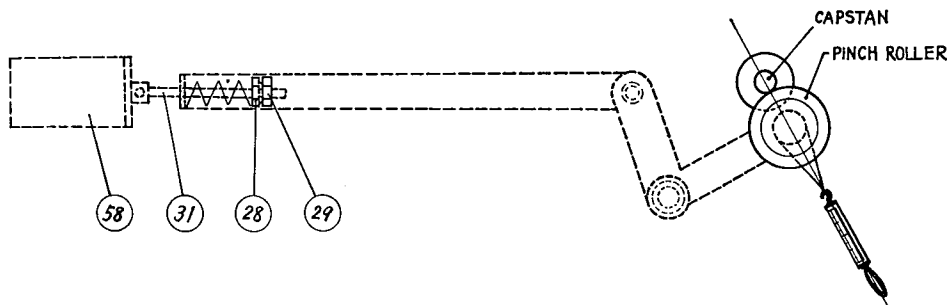

FIG. 5 PINCH ROLLER PRESSURE ADJUSTMENT
The pinch roller is forced against the capstan by the action of pinch roller solenoid (58, Fig. 5). Pinch roller pressure is supplied by the pinch roller pressure spring (31, Fig. 5), and is adjusted by a lock nut on the capstan solenoid spade bolt (28, Fig. 5).
7. Slowly pull the scale away with sufficient power to cause the pinch roller to leave the capstan, reading the scale at the instant the pinch roller leaves the capstan. The scale reading should be 5 ~ 5.5 pounds. If necessary, adjust the nut (28) shown in Fig. 5.